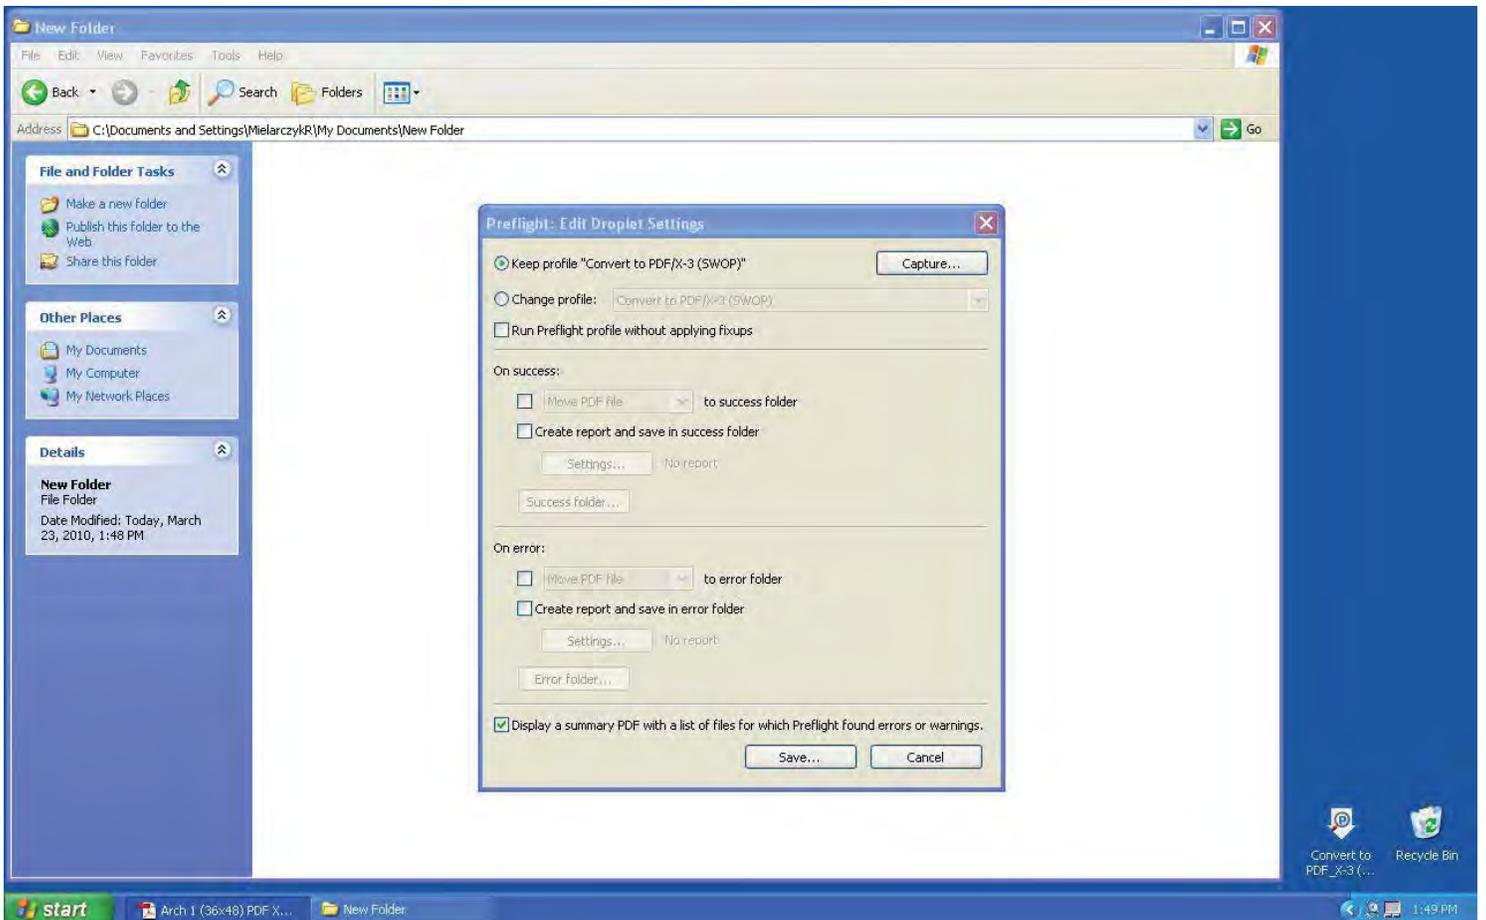

Fig. 9
8. Click the Save... button and name the droplet. (Fig 9).